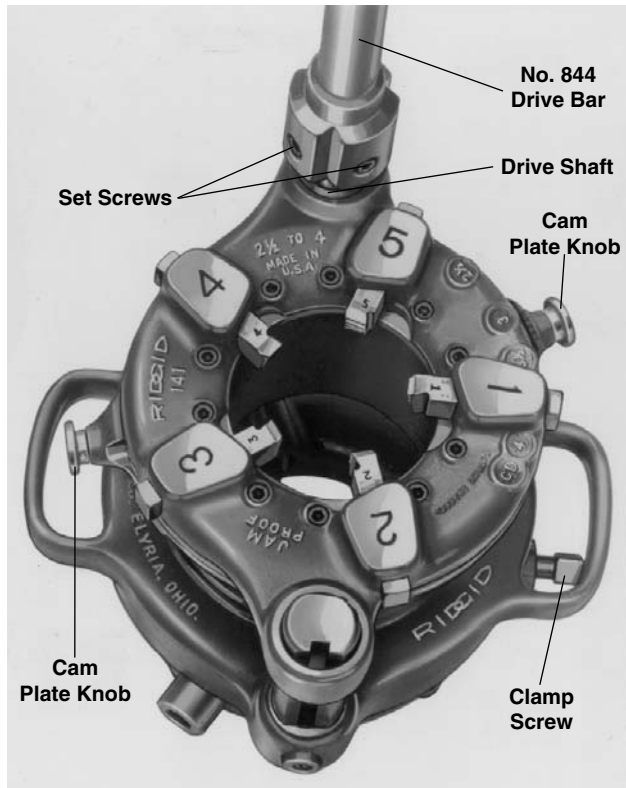

Figure 7 – No. 141 Geared Threader (No. 161 Threader Similar)
2. Pull knobs (*Figure 7*) of cam plate and rotate cam plate to desired pipe size marking on top of die head. Release knobs when locating pins drop into holes in selector plate.